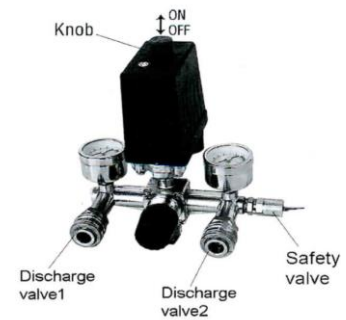

Fig.2
- 11, Set the pressure switch to the On position (Fig.2), let the compressor run for 10 minutes with no load to ensure lubrication of the moving parts before regular operation.